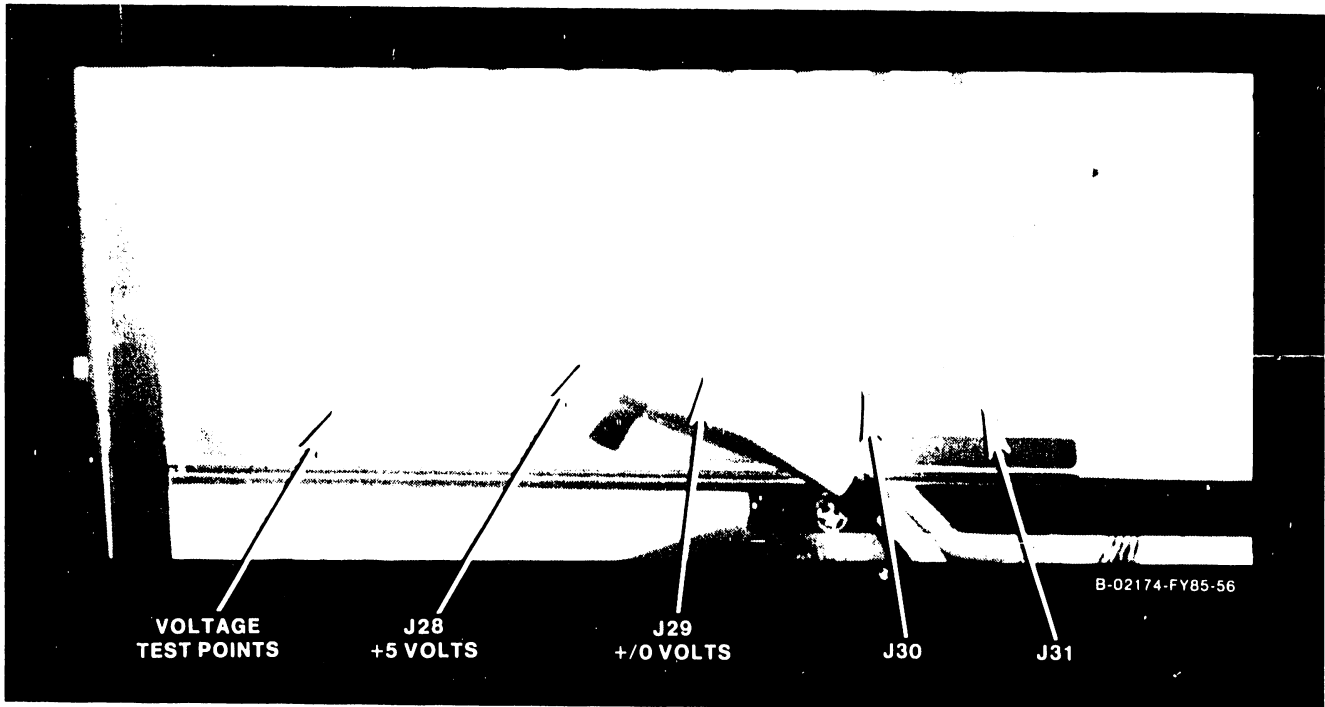

Figure 4-6. Motherboard Power Connectors
7. With the exception of the +24 Vdc, the dc power supply voltages must be checked at the motherboard test points (figures 4-6 and 4-7). If the dc voltages at the Motherboard are outside of the operating limits in table 4-13, the switching power supply must be adjusted.